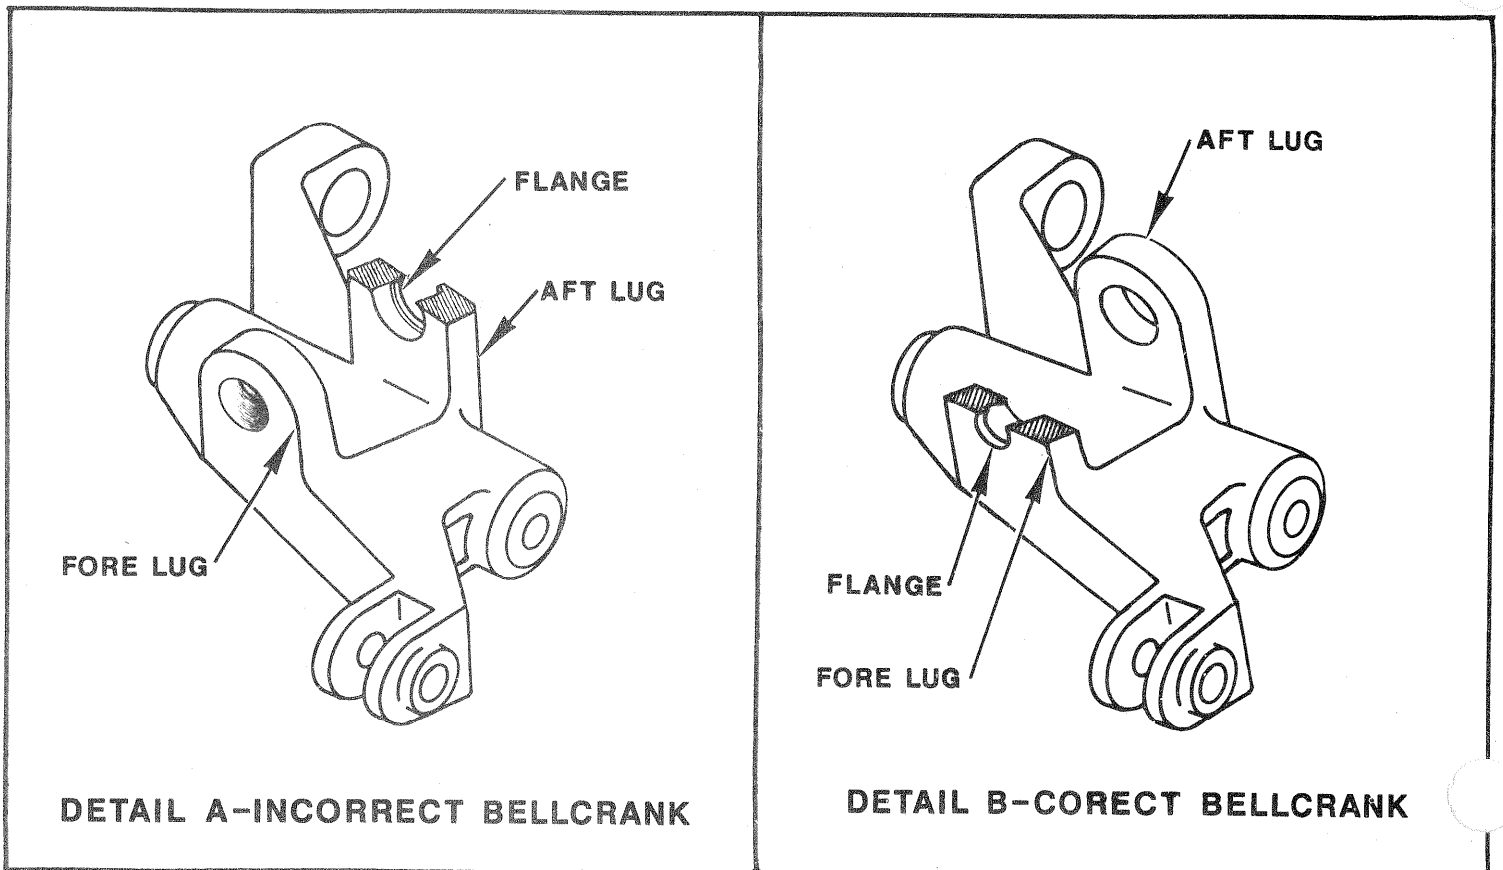
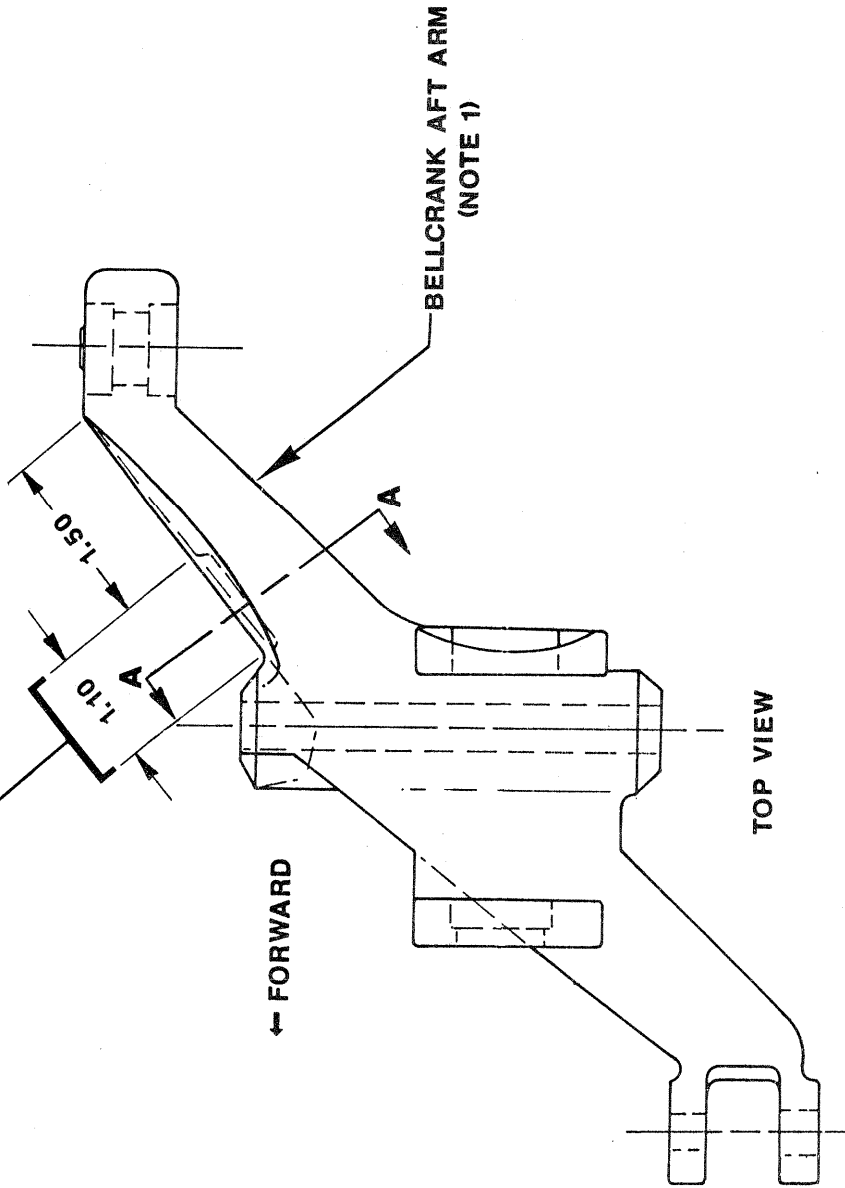

FIGURE 1. COLLECTIVE PITCH MIXER BELLCRANK
FIGURE 3. COLLECTIVE PITCH MIXER BELLCRANK
PREFACE: A possibility exists that some 269 Series Helicopters may be equipped with an incorrect collective pitch mixer bellcrank. The incorrect bellcrank incorporates a flange on the aft lug bearing bore ID (Figure 1, Detail A). The correct bellcrank possesses the flange on the fore lug bearing bore ID (Figure 1, Detail B). In addition to this flange (on the fore lug bearing bore ID), the collective pitch mixer bellcrank should incorporate a rounded edge (.12 inch radius) on the lower right-hand edge of the bellcrank aft arm (Figure 3). Bellcranks which do not incorporate this rounded edge may cause damage to the bellcrank support mast lug if the aft arm is allowed to swing down and hit the lug (when the controls are disconnected).
The incorrect collective pitch mixer bellcrank incorporates a flange on the aft lug bearing bore ID (Figure 1, Detail A). The correct bellcrank possesses the flange on the fore lug bearing bore ID (Figure 1, Detail B).
- (3) If the bellcrank meets the dimensional requirements of Figure 2, check that the lower right-hand edge of the bellcrank aft arm is round. (Refer to Figure 3.) If this edge is not round, modify the bellcrank in accordance with step e. (below).
- (1) Remove cotter pin, nut, and washer from bolt attaching lower collective control rod to collective pitch mixer bellcrank. (Refer to Figure 1.)
It will be necessary to push downwards on the forward arm of the collective pitch mixer bellcrank to gain access to the aft bearing bore. Pushing downwards on the forward arm (shown in Figure 1) will move the aft portion of the bellcrank (and connecting flight controls) upwards and allow adequate clearance to measure the aft bearing bore (at aft edge). Two people will be required to perform this sequence of steps.
- (3) Push downwards on the forward arm of the collective pitch mixer bellcrank. (Refer to Figure 1.)
- (2) Using a correct collective pitch mixer bellcrank (Figure 1, Detail B), reassemble components in accordance with Basic HMI, paragraph 8-109.
- (1) If installed, remove right-hand side fuel tank in accordance with Basic HMI, Section 5 to gain access to bellcrank aft arm.
- (2) Check the lower right-hand edge of the bellcrank aft arm for a round corner. (Refer to Figure 3.)
- (3) If lower right-hand edge is not round, use progressively finer grades of abrasive materials to make edge round. (Refer to Figure 3.) Polish smooth with abrasive paper, not coarser than 360 grit.
Ensure that the slotted bushing shown in Figure 1 is installed before installing bolt in next step.
- (1) With one washer installed on bolt, reattach control rod to bellcrank by inserting bolt through bellcrank and control rod. (Refer to Figure 1.)
- (2) Secure bolt with washer, nut and cotter pin. (Refer to Figure 1.)
- (3) Use glue to reinstall plastic boot between pilot and copilot seats.
- (4) Reinstall center cover.